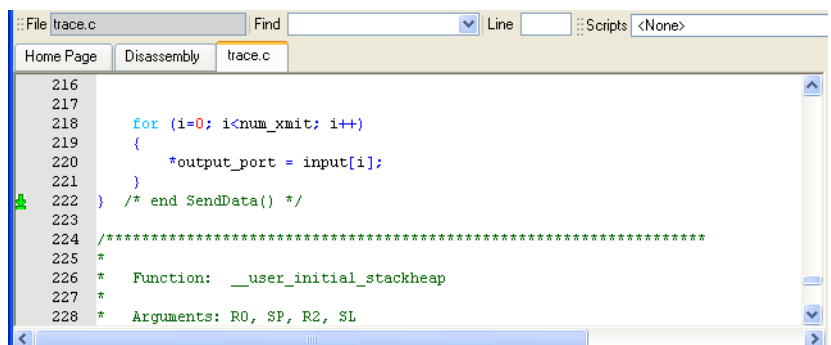

Figure 10-54 End of Trace Range set
- f. Click **OK**. The dialog box closes, and the End of Trace Range tracepoint is set as indicated by the green arrow . Figure 10-54 shows an example: